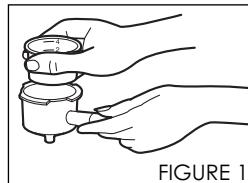

FIGURE 1
6. Place the Filter Basket into the Filter Holder (see FIGURE 1). Make sure that the Filter Basket Clip is open and resting back along the Filter Holder handle.